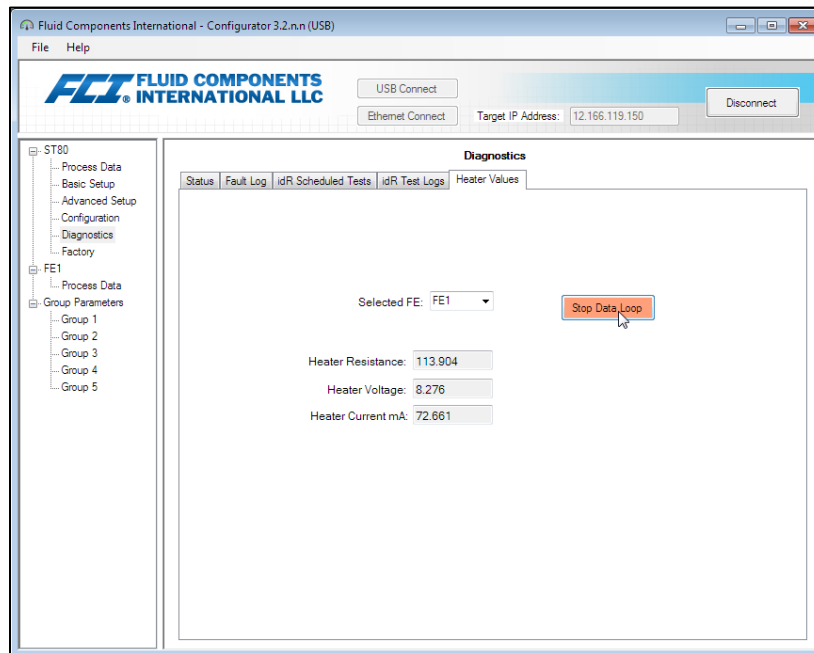

Figure 54 – Example Heater Values Tab (Diagnostics)
1. Access the **Heater Values** tab from the **Diagnostics** branch of the menu tree. See Figure 54 below.